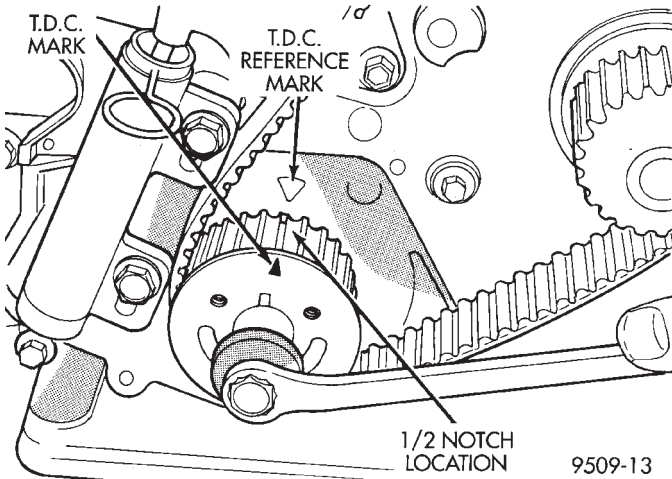

Fig. 46 Adjusting Crankshaft Sprocket for Timing Belt Installation
(6) Rotate crankshaft 1/2 tooth counterclockwise from TDC (Fig. 46).